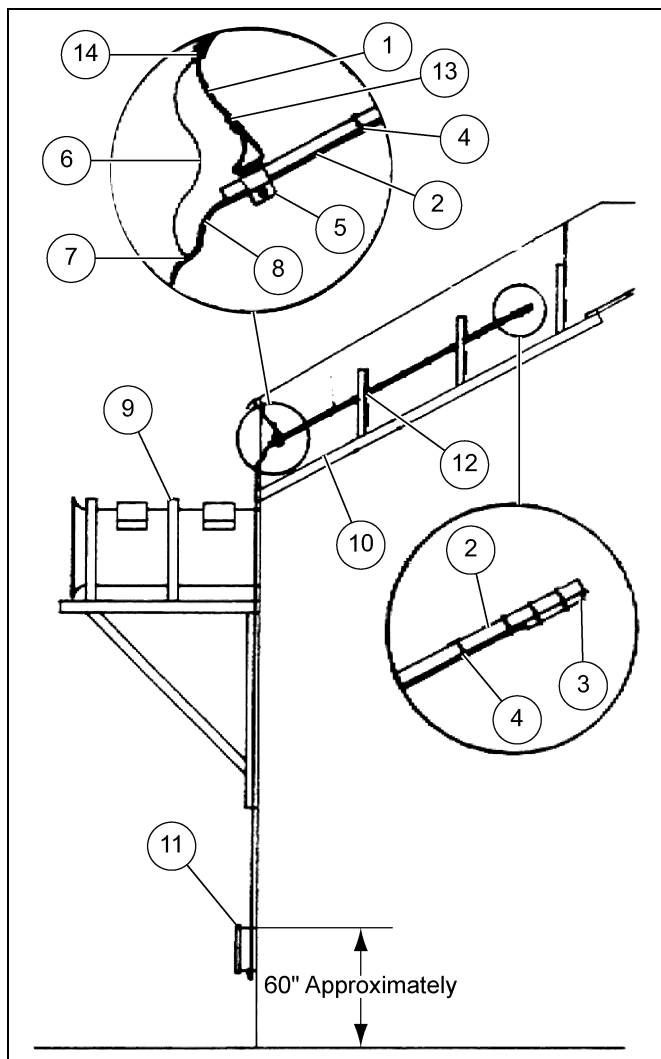

Figure 4A
2. Run two 16 gauge wires (either use wires in conduit or use a two lead power cord) from the TopDry Manual Control Center to the drying chamber. Connect the temperature probe to the two wires (one wire per probe lead) with the connectors provided. Mount the temperature probe assembly in the drying chamber in the TopDry bin. (See Figure 4A.) Connect the wires to the thermostat with the one wire going to terminal 7 on terminal strip and the other wire going to terminal 8.
2. Run two 16 gauge wires (either use wires in conduit or use a two lead power cord) from the TopDry Manual Control Center to the drying chamber. Connect the temperature probe to the two wires (one wire per probe lead) with the connectors provided. Mount the temperature probe assembly in the drying chamber in the TopDry bin. (See Figure 4A on Page 16.) Connect the wires to the thermostat with one wire going to terminal 7 on terminal strip and the other wire going to terminal 8.